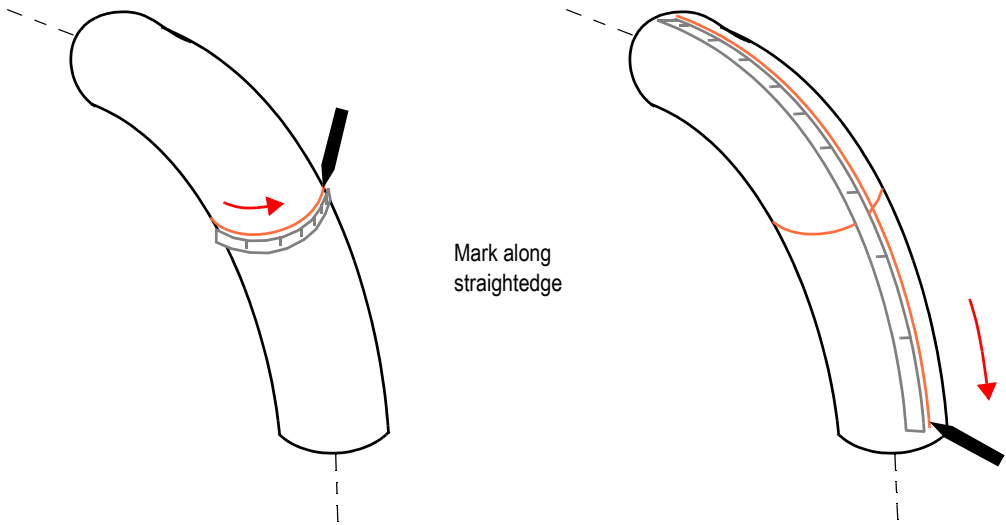

Figure 3-6 Marking the zero position (*left*) and scan (*right*) lines on an elbow
2. Determine your zero position (the middle, or center, of the scan line), and then draw your zero line perpendicular to the part’s longitudinal axis, using the flexible straightedge wrapped around the circumference as a guide (see left illustration in Figure 3-6 on page 31).
3. Position the flexible magnetic straightedge so that one edge rests flat on the longest (extrados) section of the elbow or part, and draw your first scan line parallel to the part’s longitudinal axis (see right illustration in Figure 3-6 on page 31).